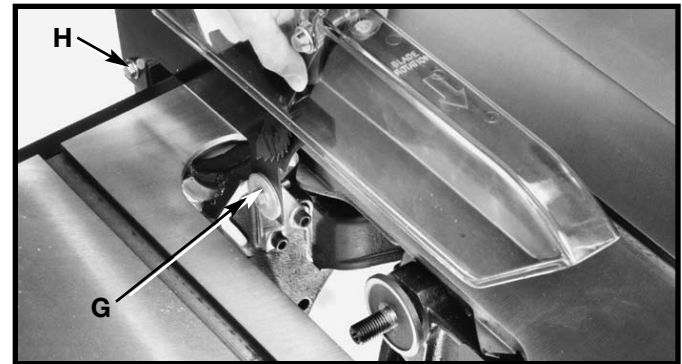
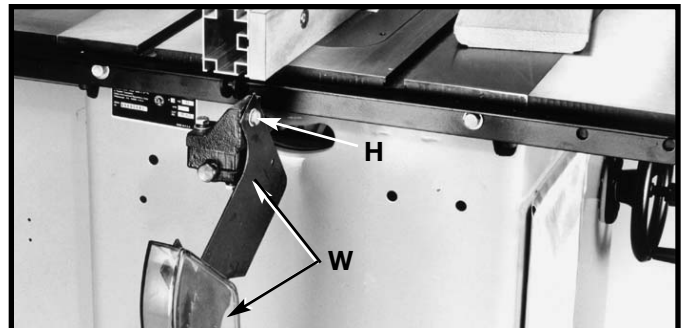

Fig. 67
Fig. 68
**⚠ WARNING FOR CERTAIN CUTTING OPERATIONS (DADOING AND MOULDING) WHERE THE WORKPIECE IS NOT CUT COMPLETELY THROUGH, THE BLADE GUARD AND SPLITTER ASSEMBLY CANNOT BE USED. LOOSEN SCREWS (G) AND (H) FIG. 67. LIFT UP AND SWING BLADE GUARD AND SPLITTER ASSEMBLY (W) FIG. 68 TO THE REAR OF THE SAW AND RETIGHTEN (H).**